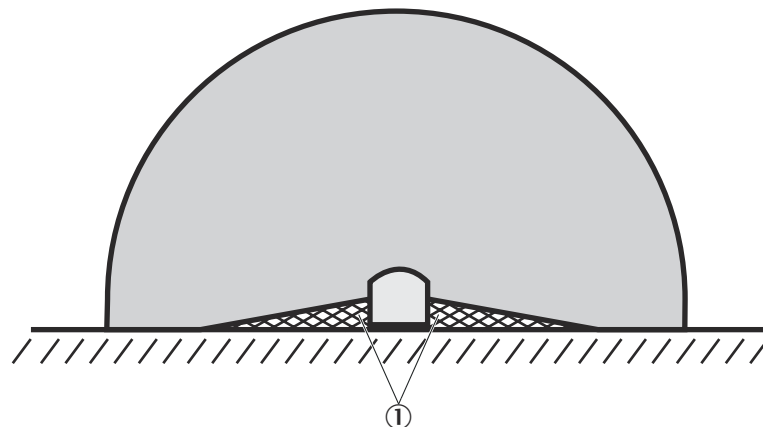

Figure 22: Mounting with deflector plates (example)
- Make the undercut ① sufficiently deep that it completely covers the area not protected by the safety laser scanner (see figure 22) and so that it is not possible to stand behind the unsecured areas.
- Prevent crawling beneath the undercut by making the height of the undercut ② sufficiently small so that no one can crawl under it.